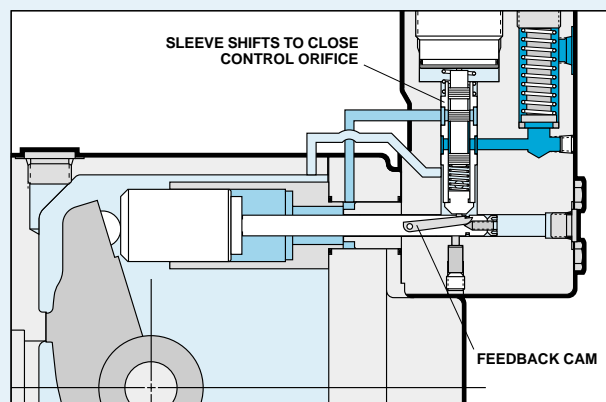

Figure 3: Movement of sleeve nulls pilot stage
**FIGURE 3:** The feedback rod moves with the control piston. When the cradle has reached its proper angle, movement of the feedback cam causes the sleeve to shift in relation to the spool. This closes the orifice and effectively nulls the pilot stage. The control piston and the cradle remain in this position as long as the electrical signal is unchanged.